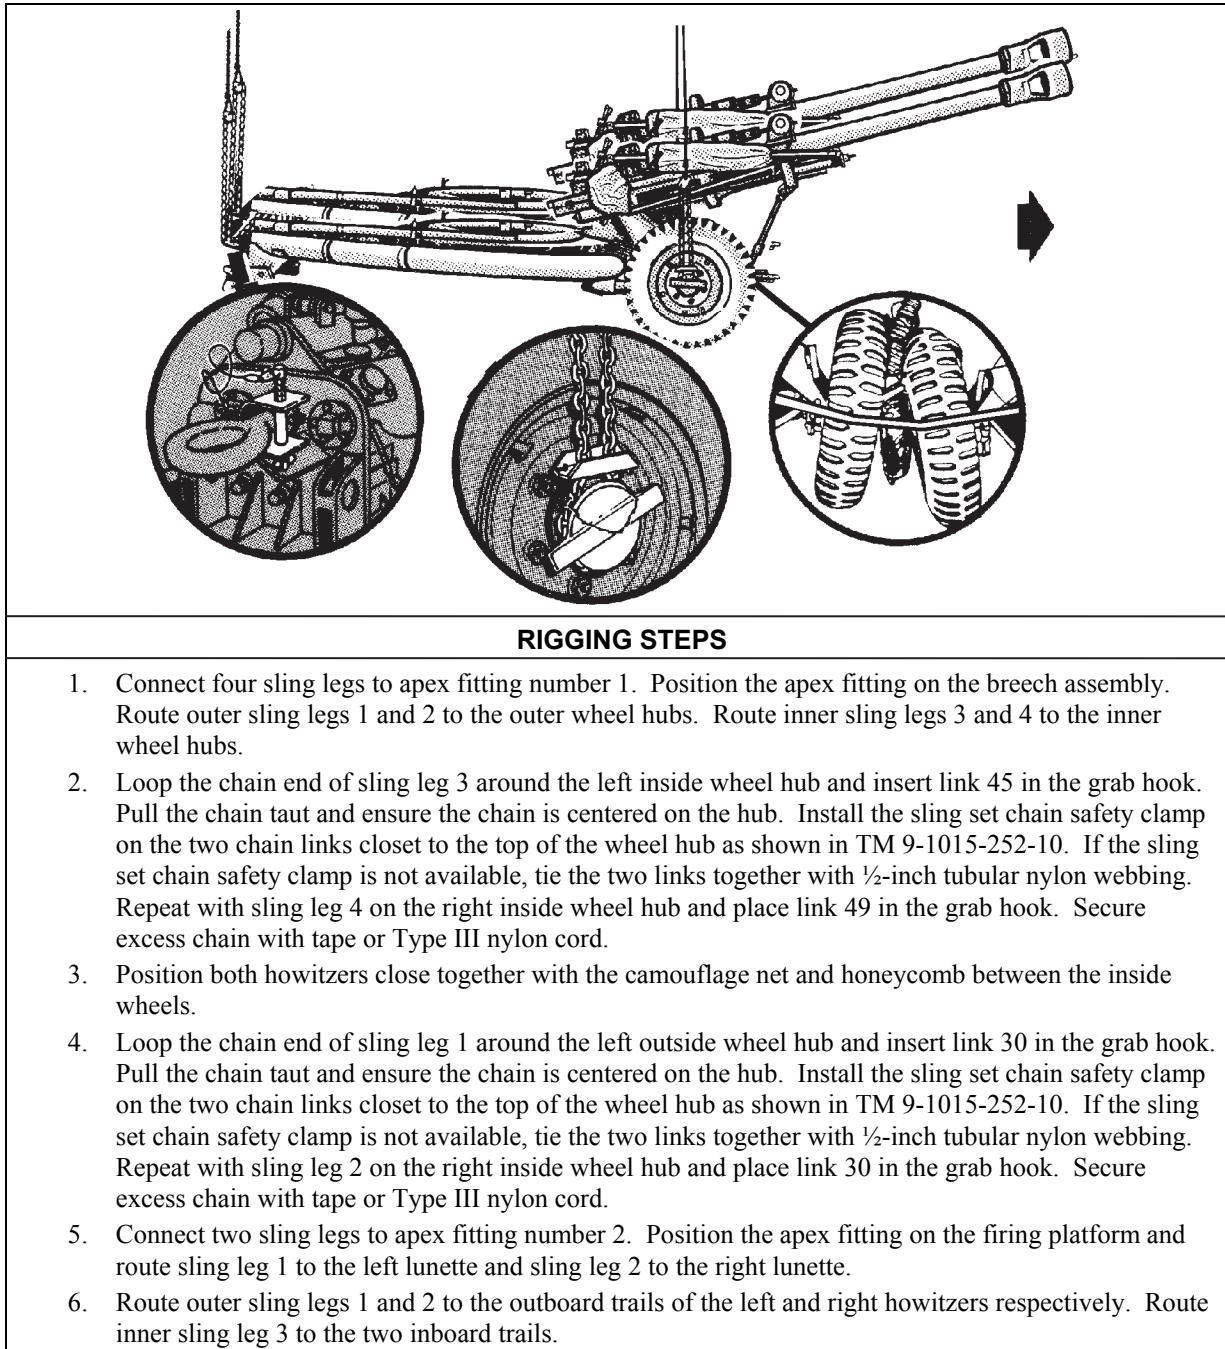

Figure 6-5. Two M119A2 Howitzers, 105-mm, Forward Firing Position, Side by Side
- **Rigging.** Rig the load according to the steps in Figure 6-5.
Figure 6-5. Two M119A2 Howitzers, 105-mm, Forward Firing Position, Side by Side (Continued)**M198 HOWITZER, 155-MM, TOWED WITH EXTERNAL AIRLIFT TRAVEL LOCK ASSEMBLY**